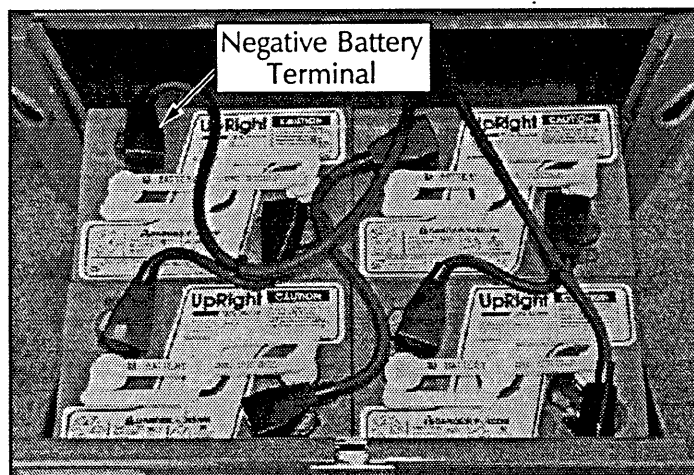

Figure 2-2: Battery Compartment
5. Connect the negative battery lead terminal (Figure 2-2).
3. Disconnect the battery negative (-) lead from the battery terminal (Figure 2-2).